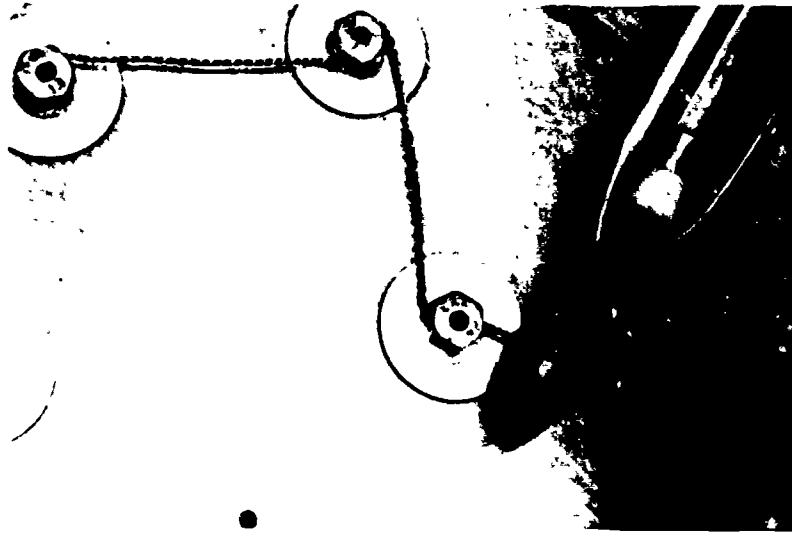

Figure 21. Pigtail 1/4 to 1/2 Inch Long.
20. Use the safetywiring pliers to cut the twisted wire so that a pigtail 1/4 to 1/2 inch long remains. See figure 21.